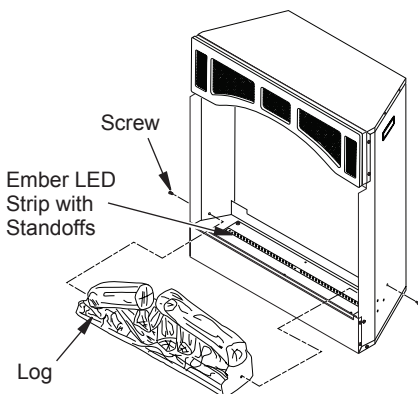

Figure 10 - Removing Log and Ember LED
2. Remove screws from each side of log that secure log to sides and remove log (see Figure 10).
2. Locate ember LED strip (see Figure 10). Disconnect wire (right side).
2. Remove screws from each side of log that secure log to base and remove log (see Figure 10, page 9).